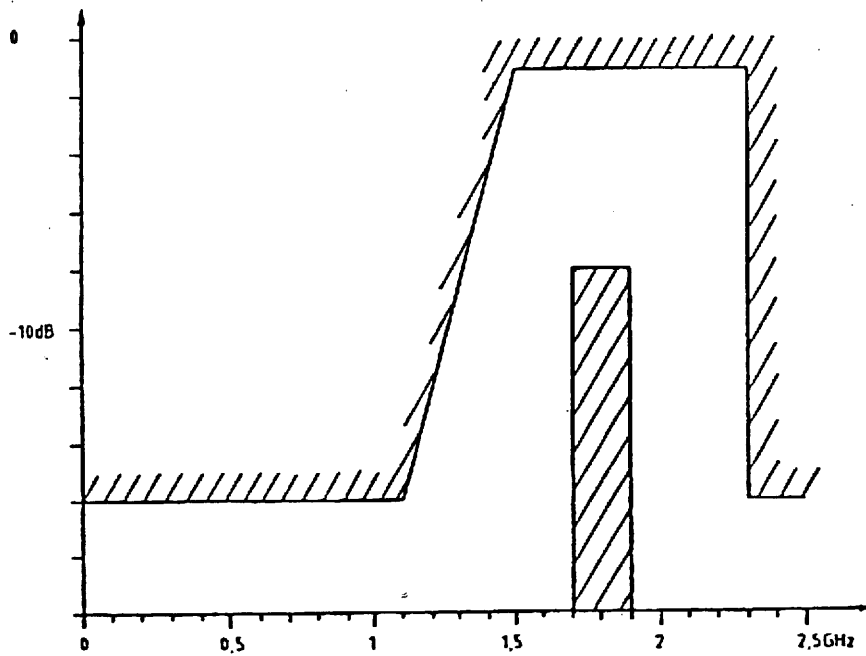

Fig. 5-3 Level tolerance chart: output coupling for synchronization with bandpass filter switched on
--> Apply -15 V across 1.27 k Ω ; level as in Fig. 5-3.